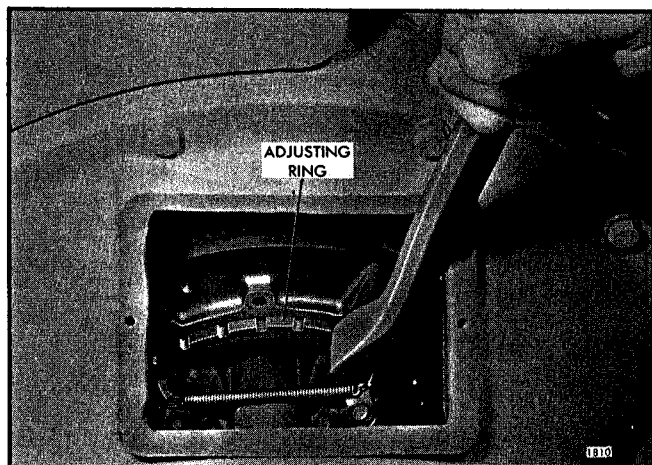
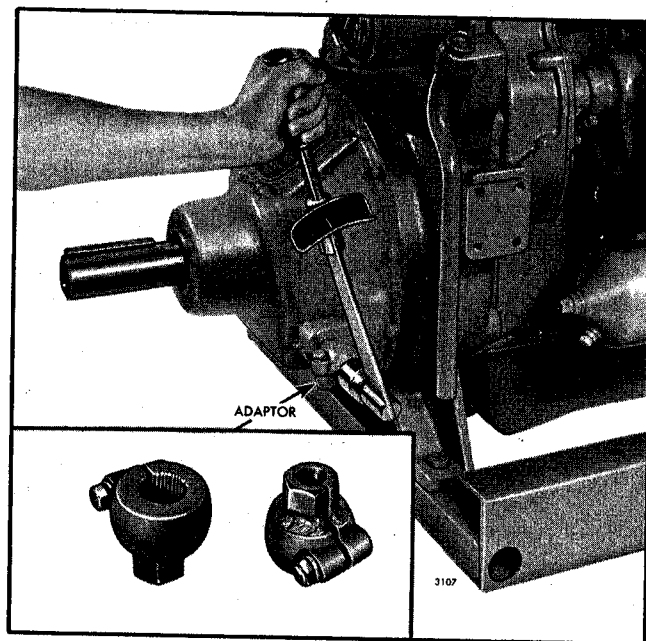

Fig. 10 - Adjusting Clutch
Fig. 11 - Checking Clutch Adjustment with a Torque Wrench and Adaptor
3. Remove the clutch adjusting ring spring lock screw and lock from the inner clutch pressure plate and adjusting ring. Then, while holding the clutch drive shaft to prevent the clutch from turning, turn the clutch adjusting ring counterclockwise as shown in Fig. 10 and tighten the clutch until the desired pressure on the outer end of the hand lever, or at the clutch release shaft (Fig. 11), is obtained as shown in the table.
A suitable spring scale may be used to check the pounds pressure required to engage the clutch. However, a more accurate method of checking the clutch adjustment is with a torque wrench as shown in Fig. 11.
To fabricate an adaptor, saw the serrated end off of a clutch hand lever and weld a 1-1/8" nut (across the hex) on it as shown in Fig. 11. Then, saw a slot through the nut.